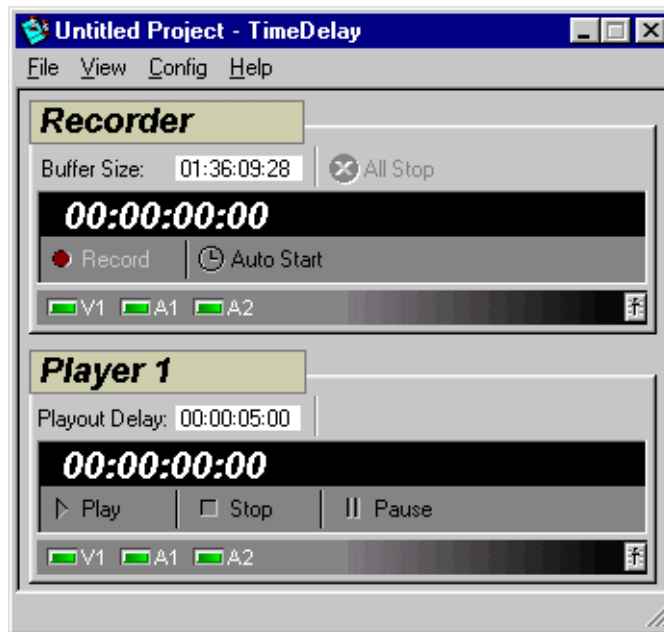

Figure 169. TimeDelay window
- Double click on the TimeDelay shortcut icon on the desktop. When the TimeDelay window appears, you can use the default settings that include one record and one playback panel (see Figure 169).